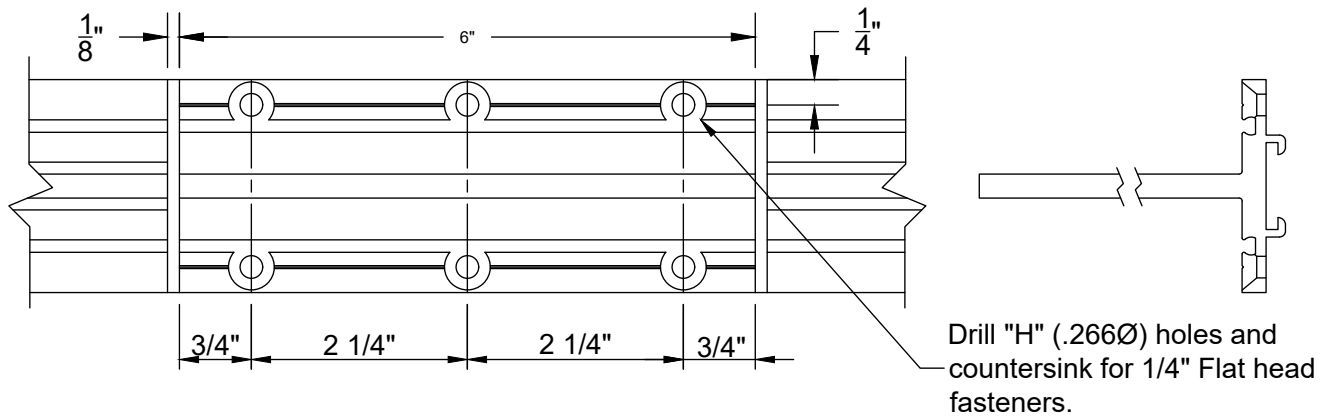

FIGURE 5
- 1) Fabrication for typical WW-285-01 SSG sunshade anchor shown below. The length and number of fasteners may vary based on project conditions. All sunshade anchors must be reviewed by an Engineer to determine proper size and attachment. See **FIGURE 5**.
- 2) FIGURE 6 shows the fabrication of the WW-286 SSG glazing adaptor and optional captured glazing adaptors; WW-287 and WW-289. Cut length of WW-286 adaptors will be cut to leave 1/8" joint above and below sunshade anchor. See **FIGURE 5**. WW-287 and WW-289 adaptor will run between SSG bridges.